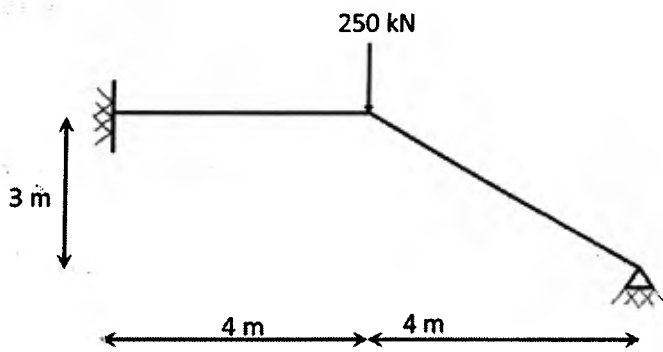

Figure 3
- Q.4 Determine the member forces and reactions developed for the frame as shown in figure 3. Take modulus of elasticity as 210 GPa and Moment of Inertia of cross-section as 0.8x10⁹ mm⁴ and area of cross section as 10000 mm². [20]